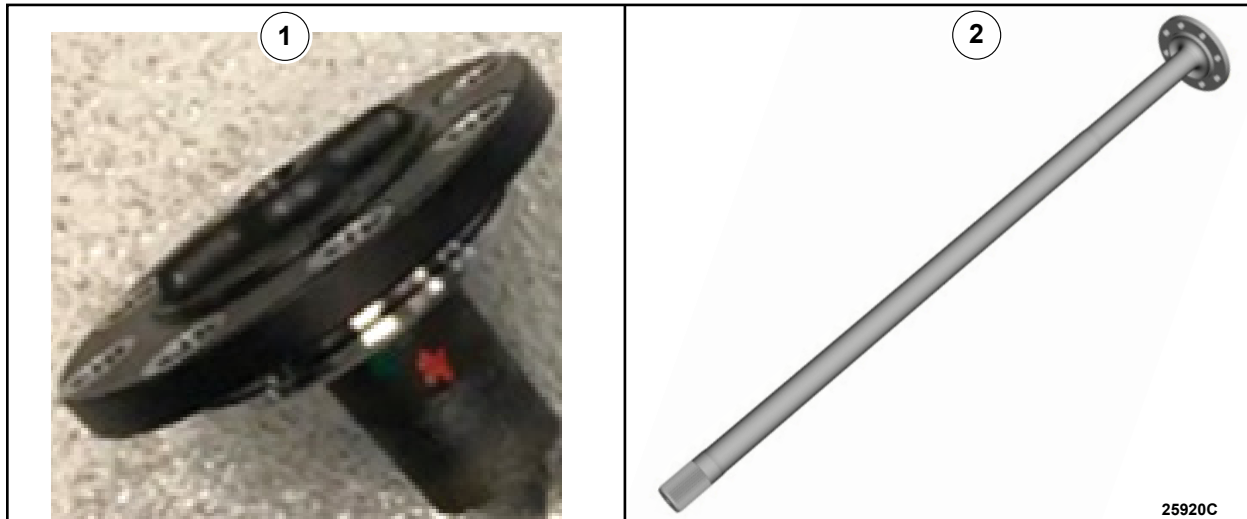

FIGURE 3
6. Is the RH axle shaft complete and in one piece? See Figure 3.